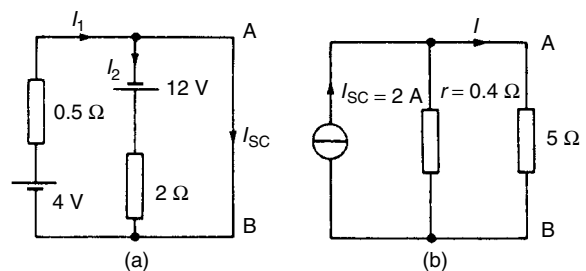

Figure 13.58
- (i) The $5\ \Omega$ branch is short-circuited as shown in Fig. 13.58(a)
- (ii) From Fig. 13.58(a),
(iv) From the Norton equivalent network shown in Fig. 13.58(b) the current in the $5\ \Omega$ resistance is given by: